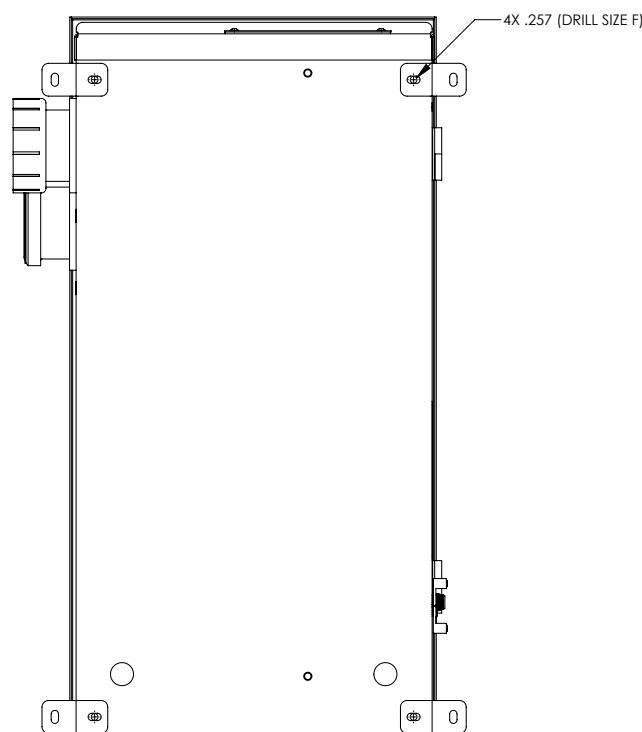

Figure 2: Wall Mounting Hole Pattern
1. Drill 4 holes, (.257 in, drill size F), in the back of the enclosure approximately as shown in Figure 2.